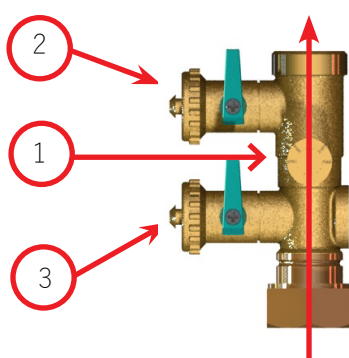

Figure 4.0-1: Drain Fitting Open
4. Connect the HPAK fill valve position #2 (see figure 4.0-1) to a site mains supply hose or filling station supply hose.